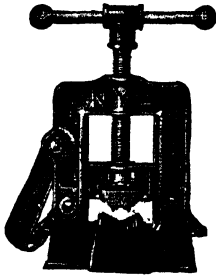

Fig. 1. Self-Locking
**Pipe Vise.** This is used to hold conduit firmly when being cut, reamed, and threaded. Fig. 1 shows a vise to be bolted to a work-